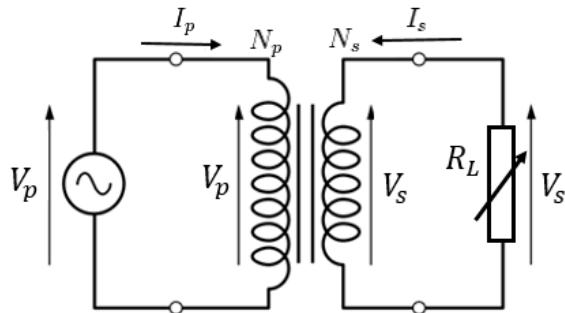
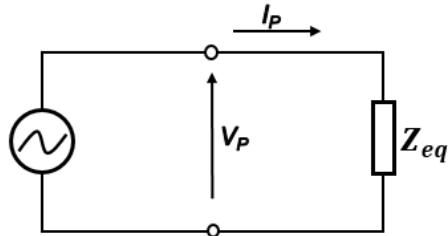
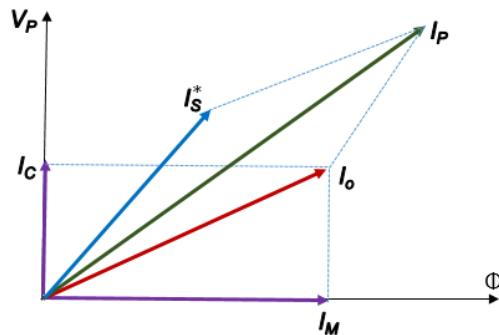

Figure 3: Ideal transformer with load.
Figure 4: Circuit-equivalent to a transformer circuit with ideal load
Figure 9: Phasor diagram of the currents in a practical transformer with load
Let us now look at an ideal transformer whose load R_L (ohms only) is connected to its secondary coil, as shown in Figure 3.
As with any electric circuit we want to find the equivalent impedance of the circuit. Our aim is to express the transformer and the load connected to it as a single component with impedance Z and then we can solve the transformer-containing circuit using the standard methods we know. Therefor we will build an equivalent circuit as in Figure 3, by denoting the transformer together with the connected load as impedance Z_{eq} (Fig. 4).
If the transformer is loaded (connecting the rheostat to the secondary coil terminals as in Figure 3) then the flow diagram will change (see Figure 9). In the secondary coil, an electric current I_s will flow, which will alter the flux in the secondary coil, and as a result, there will also be flux in the primary coil. This electric current, will try under Lenz's law, to reduce the flux in the primary coil. Since the voltage at the input to the primary coil is constant (generator voltage), it will increase the current in the primary coil, according to the wrap ratio, so that it will reach the value of I_s^* (see explanation for Figure 7). The current in the primary coil I_p will be the sum of two vectors: the current I_s^* and the current I_0 (the current of a non-load transformer).
2. For the circuit in figure 3: $V_p = 10V, R_L = 10\Omega, N_p = 140, N_s = 42$. Find the I_s current that flows through the R_L load. Hint: Use Ohm Law for load and the equation. (3)